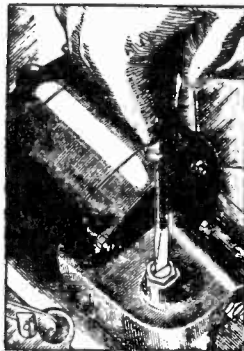

Figure 8—Adjusting spindle height
- (a) Improper turntable spindle height. The height of the turntable spindle nose should be approximately $\frac{1}{4}$ " above the inside bottom surface of the record magazine. Adjustment of this height made by means of the screw at the bottom of the motor. (See Figure 8).
- (b) Turntable spindle shaft too low. This condition will cause binding between the pawl carrier and the clutch wheel. Raise the spindle as shown in Figure 8.
(13) RETIMING THE MECHANISM